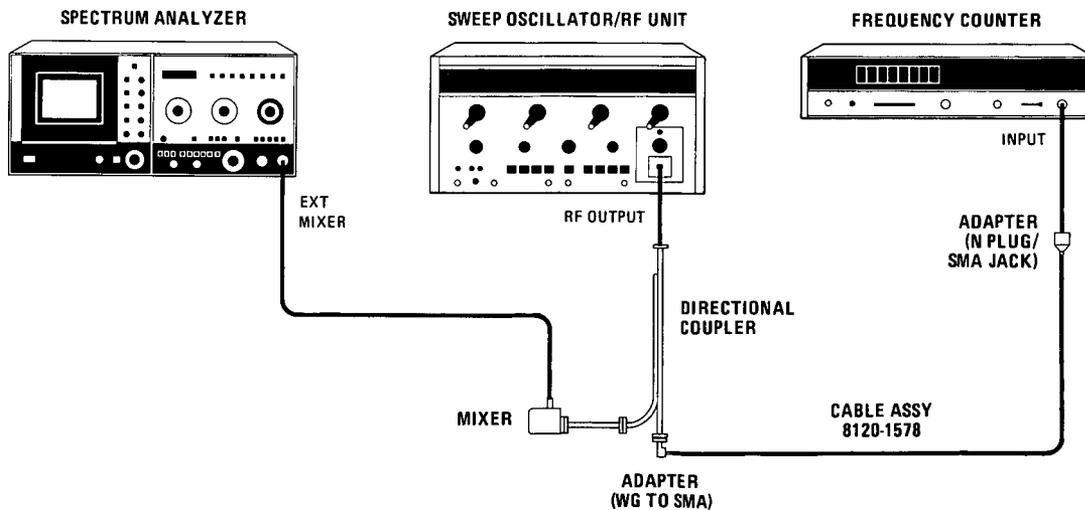

Figure 4-1. Tuning Accuracy Test Setup
- d. Connect equipment as shown in Configuration A of Figure 4-1 with comb generator connected to INPUT of spectrum analyzer.
- o. Disconnect comb generator from spectrum analyzer input. Connect sweep oscillator and frequency counter as shown in Configuration A of Figure 4-1.
**Use HP 8690B/8696A with appropriate adapters in place of 8620C/86290A, Configuration A of Figure 4-1.
- q. Connect equipment as shown in Configuration B of Figure 4-1.